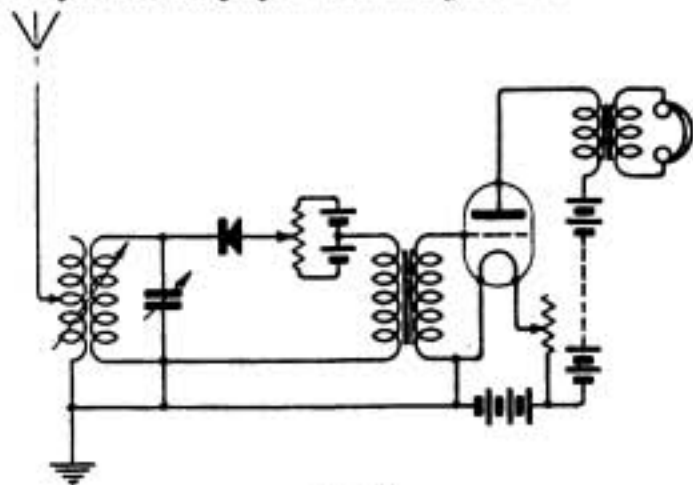

Fig. 9.
(1) The wires suggested are quite unsuitable for an efficient transformer of this type, but if used you might try a core of 1" diameter by 6" long, with 9 ozs. of No. 25 and 7 ozs. of No. 36 for the windings. (2) Any hard receiving valve will do. Connections may be as in the diagram (Fig. 9).